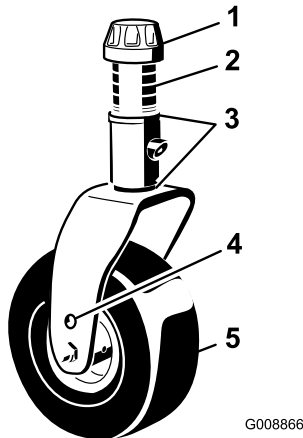

Figure 77
1. Remove the tensioning cap from the spindle shaft and slide the spindle out of the castor arm (Figure 77).